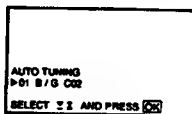

Fig. 6
- 3 Select "AUTO TUNING" with Δ+ or ▽- and press OK. The AUTO TUNING menu appears. (See Fig. 6.)